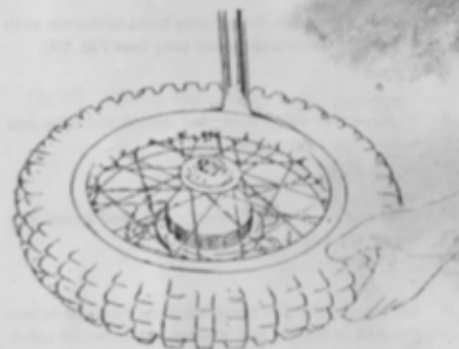

Fig. 56 Inserting tire lever at valve.
- 3 Insert a broad tire lever at the valve position between the bead and wheel rim. (see Fig. 56) Whilst applying pressure to this, press the diametrically opposite portion of the tire bead into the rim well. Now use a second tire lever close to the first tire lever and re-insert a few inches beyond the second. Continue this process round the wheel rim in 3 or 4 in. intervals until the first bead is completely clear of the rim.